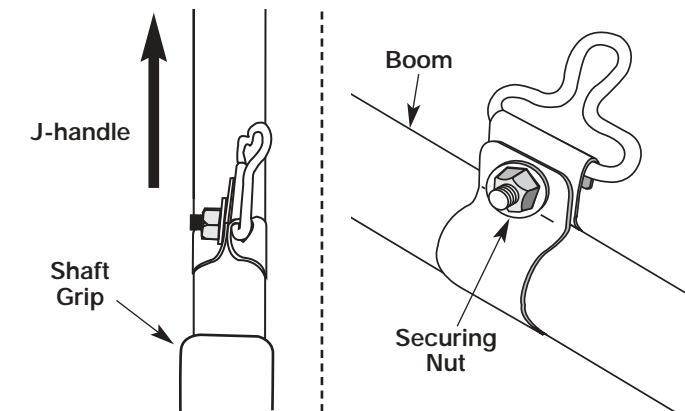

Fig. 5
3. Arrange the clip so that it is close to the shaft grip and away from the J-handle (Fig. 5).